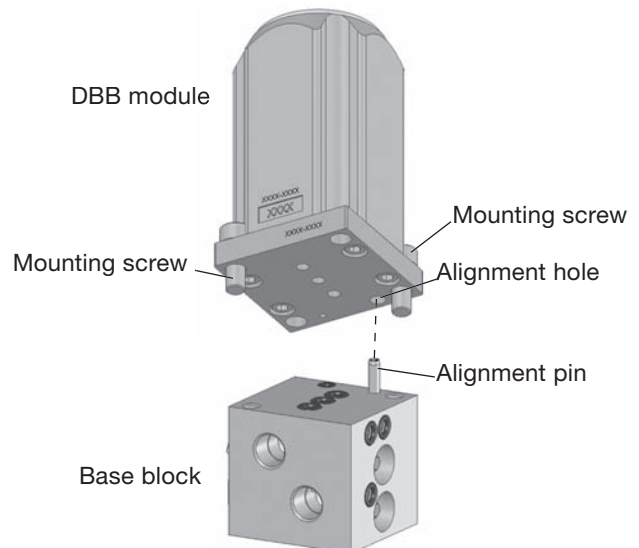

Fig. 4
6. Install a **DBB module** on each **base block** with the **alignment pin** fitting into the alignment hole on the DBB module. Using two **mounting screws** (#10-32 x 1/2 in. with standard 5/32 in. hex drive) tighten the DBB module to the base block to 25 to 35 in.·lb (2.8 to 4.0 N·m). See Fig. 4.